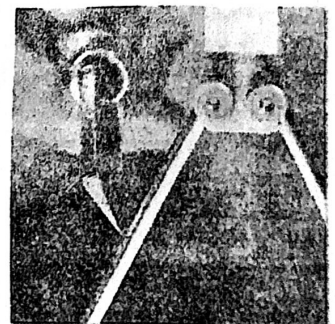

Figure 9B
**Step 5:** Place the blade on the right arm of the steel nearest the ferrule with the spine in the preferred position\* (see Figure 9B). Keeping the edge in constant contact with the arm of the steel, slowly draw the knife toward your body. The blade should "flick" inward slightly after the length of the blade has been steeled.